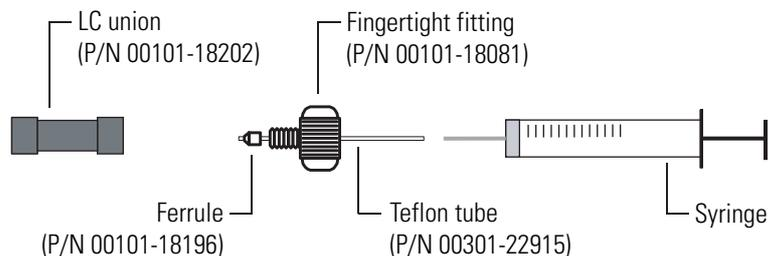

Figure B-2. Connecting the syringe and the LC union
2. Connect a 4-cm (1.5-in) length of Teflon tubing (0.03-in ID \times 1/16-in OD) with a fingertight fitting (for a 10-32 receiving port and 1/16-in OD tubing) and a ferrule to the LC union. See Figure B-2.